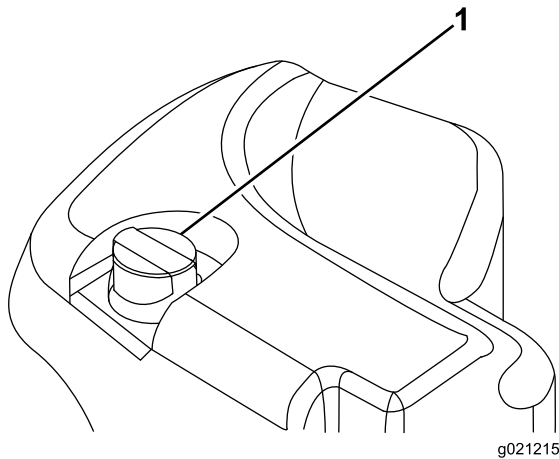

Figure 34
2. Clean the area around filler neck and cap of the hydraulic tank (Figure 34).